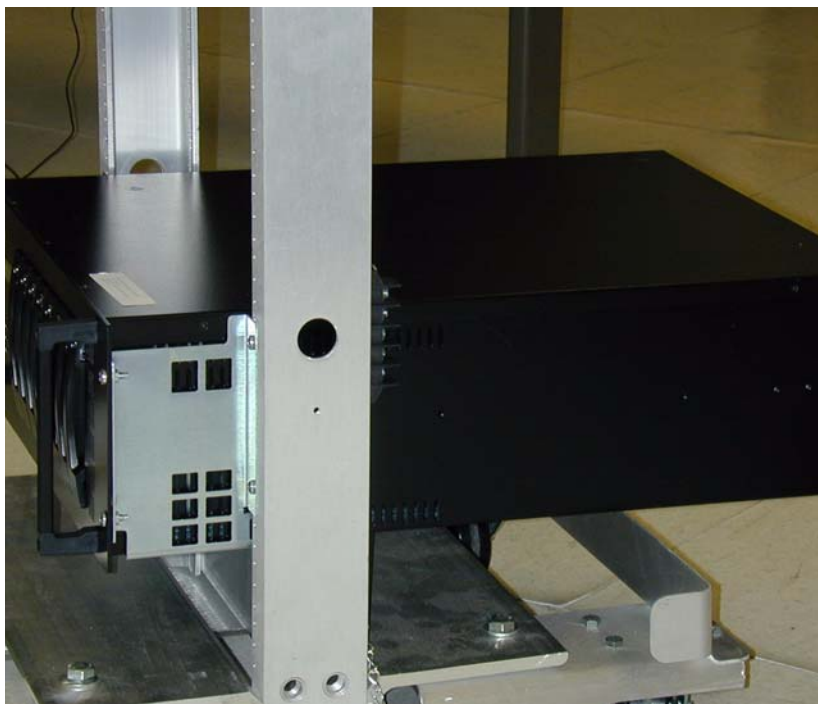

Figure 2-5 NAS Mounting Bracket, Right Side
2. Install the right rack mounting bracket, shown in Figure 2-5, using two screws to attach the unit into right side the rack. The right bracket has several holes in it to allow proper air flow through the storage unit.